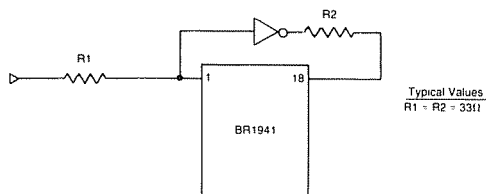

Figure 3 SERIES RESISTOR TO MATCH IMPEDANCE
1. Add a series resistor to match impedance as shown in Figure 3.